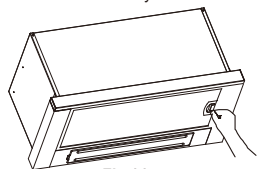

Fig.14
1. Pull down the latch of filter.(Fig.14)